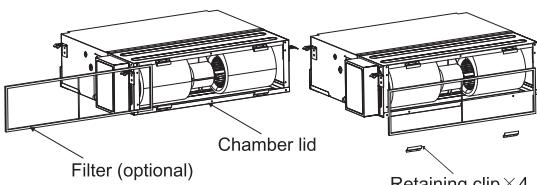
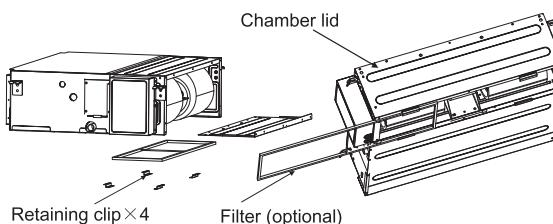

Fig.3.1.2
Fig.3.1.3
- Reattach the removed filter in the orientation shown in Fig. 3.1.2, reattach the removed chamber lid in the orientation shown in Fig. 3.1.3, refer to Fig.3.1.3 for the direction of filter.